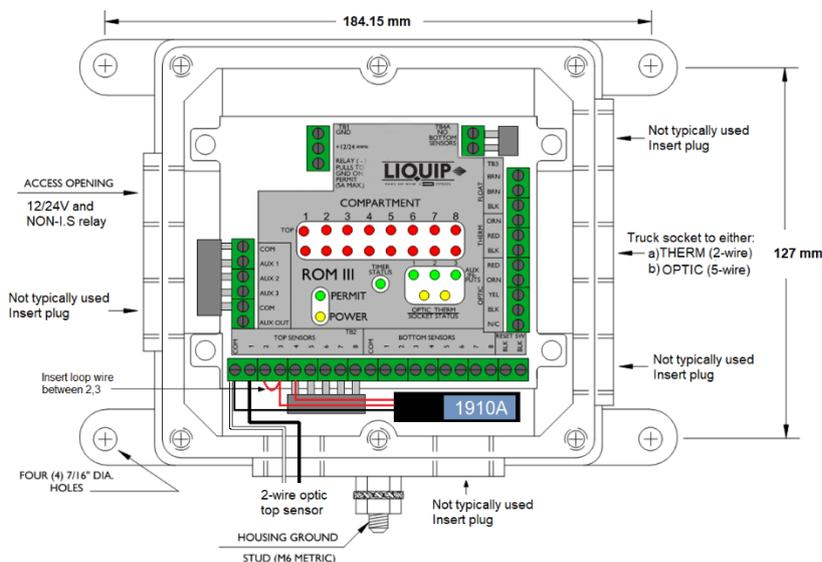

Figure 1
New mounting holes will need to be drilled when replacing a MPP102 with a ROM III - refer to fig1. The ROM III enclosure has four 7/16" mounting holes. Use 8mm bolts to secure the enclosure to a metal chassis or structure.
There is only one NPT hole provided at the top left side of the monitor to bring NON-IS power and relay signal into the enclosure (see figure 1). The remaining six NPT holes must only be used for I.S signals and as shown in figure 1. This convention must be followed.
The ROM III has an external M6 Ground Stud (see Figure 1) which is used to connect an **APPROVALS REQUIRED** #14AWG (1.5mm) External Ground Wire between the Monitor Housing and the Chassis Ground on the tanker. It is suggested that this wire have a Green (or Green with Yellow strip) for proper identification as a “chassis ground” connection. Tighten the Ground Stud Nut to 7.6 N-m.
For an MPP102, the power supply (**V+**, **0V**) and NON-IS relay signal (**NO**, **COM**) are contained within a single cable. When retrofitting a ROM III, disconnect the cable (carrying power + relay) from the MPP102 and pass it through the top left cable entry of the ROM III enclosure only (see Fig1).
1. To DISABLE bottom sensor monitoring, insert a link strip at TB4A (Fig1).
4. Place the LIQ1910A terminator probe inside the ROM III enclosure alongside bottom sensor terminals (TB2) as shown in Fig1.